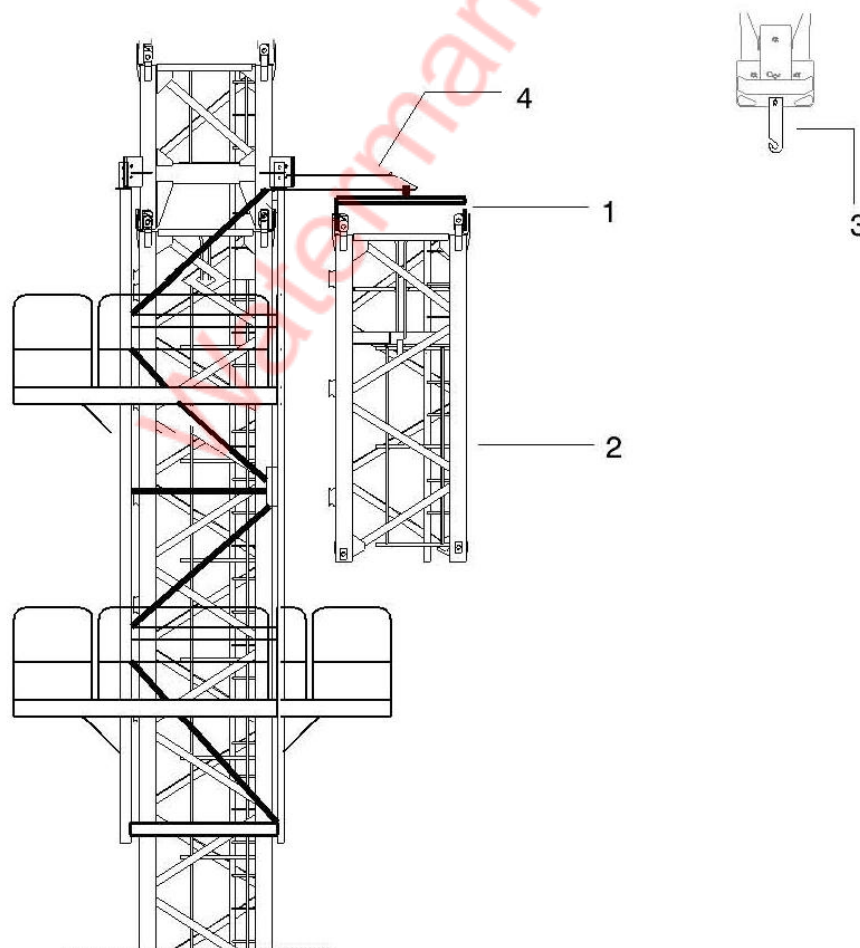

Figure 1
- _ Fit the monorail trolley (1) onto a mast section (2) chosen according to the mast composition.
- _ Hang the monorail trolley (1) from the telescoping hook (3), raise the assembly and hook the trolley (1) to the monorail (4) making sure that the telescoping lugs of the mast are located on the crane side (Figure 1).